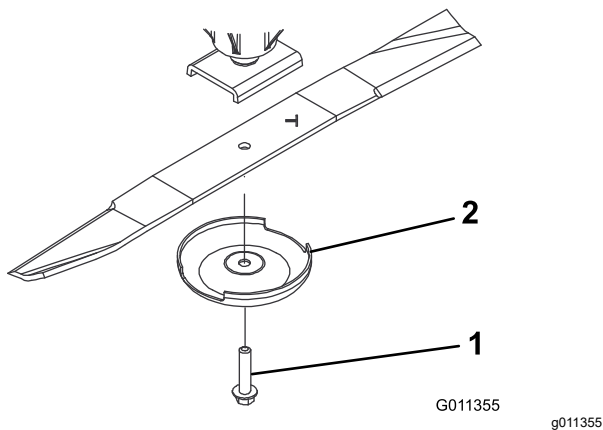

Figure 100
- Remove the blade bolt, anti-scalp cup, and blade from the spindle shaft (Figure 100).